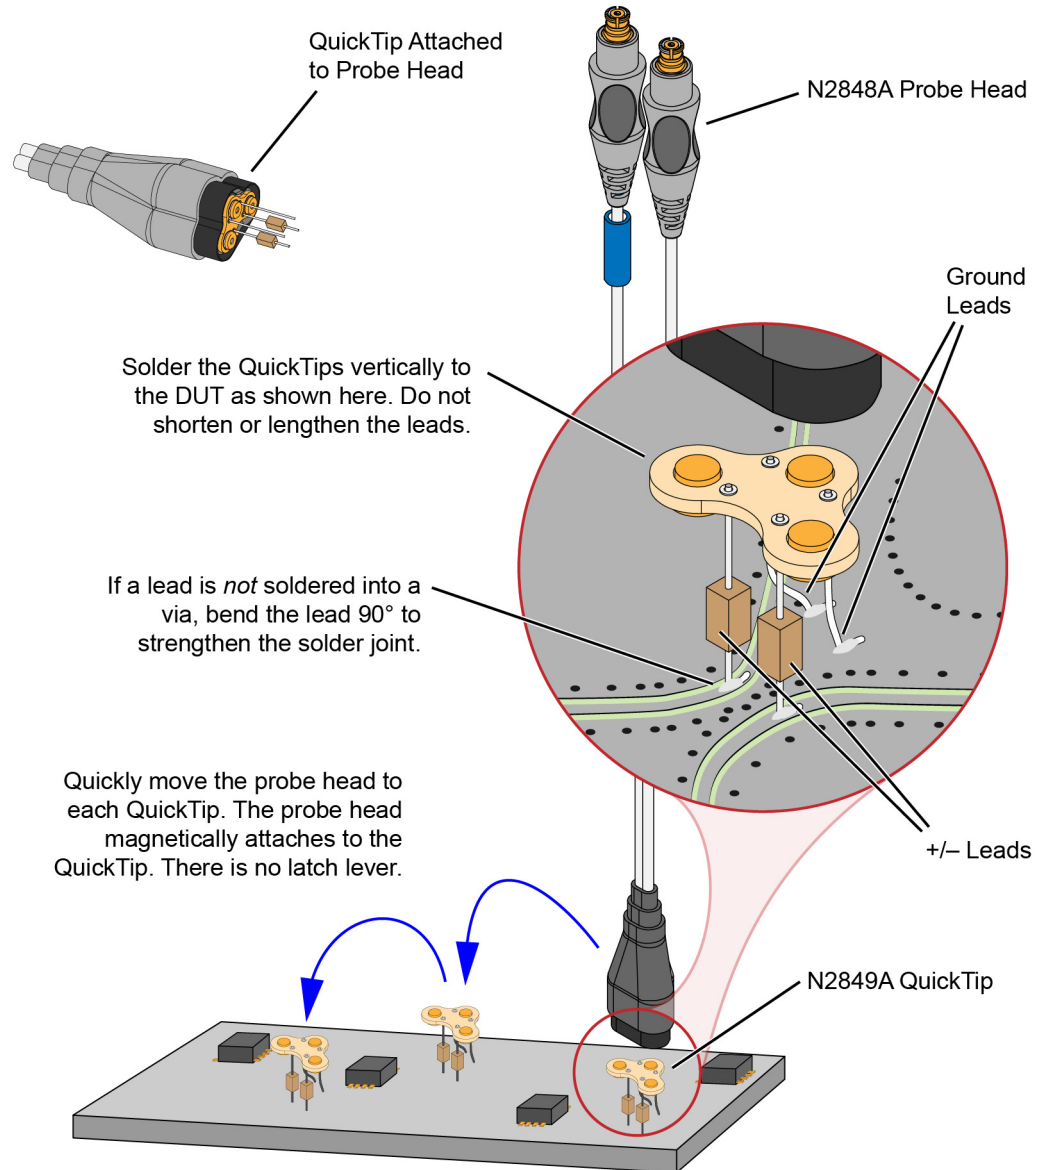

Figure 20 Probing with the N2848A Probe Head and N2849A QuickTip
Permanently solder any number of N2849A QuickTips to your DUT as shown in **Figure 20** on page 30. Because the probe head is magnetically connected (instead of mechanically connected) to the QuickTip, you can effortlessly connect and disconnect to each QuickTip. For best performance, position the QuickTip vertically on the DUT. The N2849A QuickTip has two signal leads and two ground leads. The ground leads have minimal effect on your differential measurements. However, if you are making only differential measurements you
- Orient the QuickTip vertically as shown in **Figure 20** on page 30.